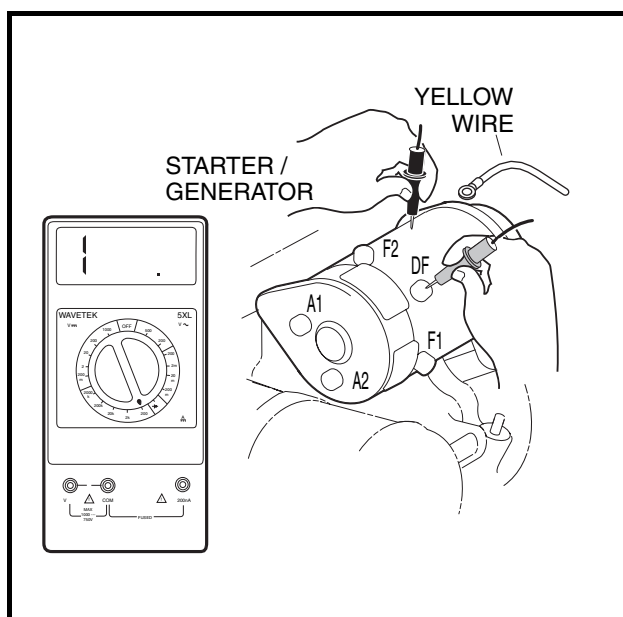

Figure 11-15 Check Starter Terminal Continuity
4. Disconnect the wires from all the terminals on the starter/generator. Then place the black (–) probe of a multimeter, set to ohms, on the starter/generator housing (scratch through the finish to ensure a good ground). While holding the black probe against the housing, place the red (+) probe (one at a time) on the A1, A2, F1, F2 and DF terminals respectively (**Figure 11-15, Page 11-17**). The readings should be no continuity. If the readings are incorrect, the starter/generator will need to be removed from the vehicle and disassembled by a qualified technician. See **Starter/Generator Removal, Section 12, Page 12-1.**